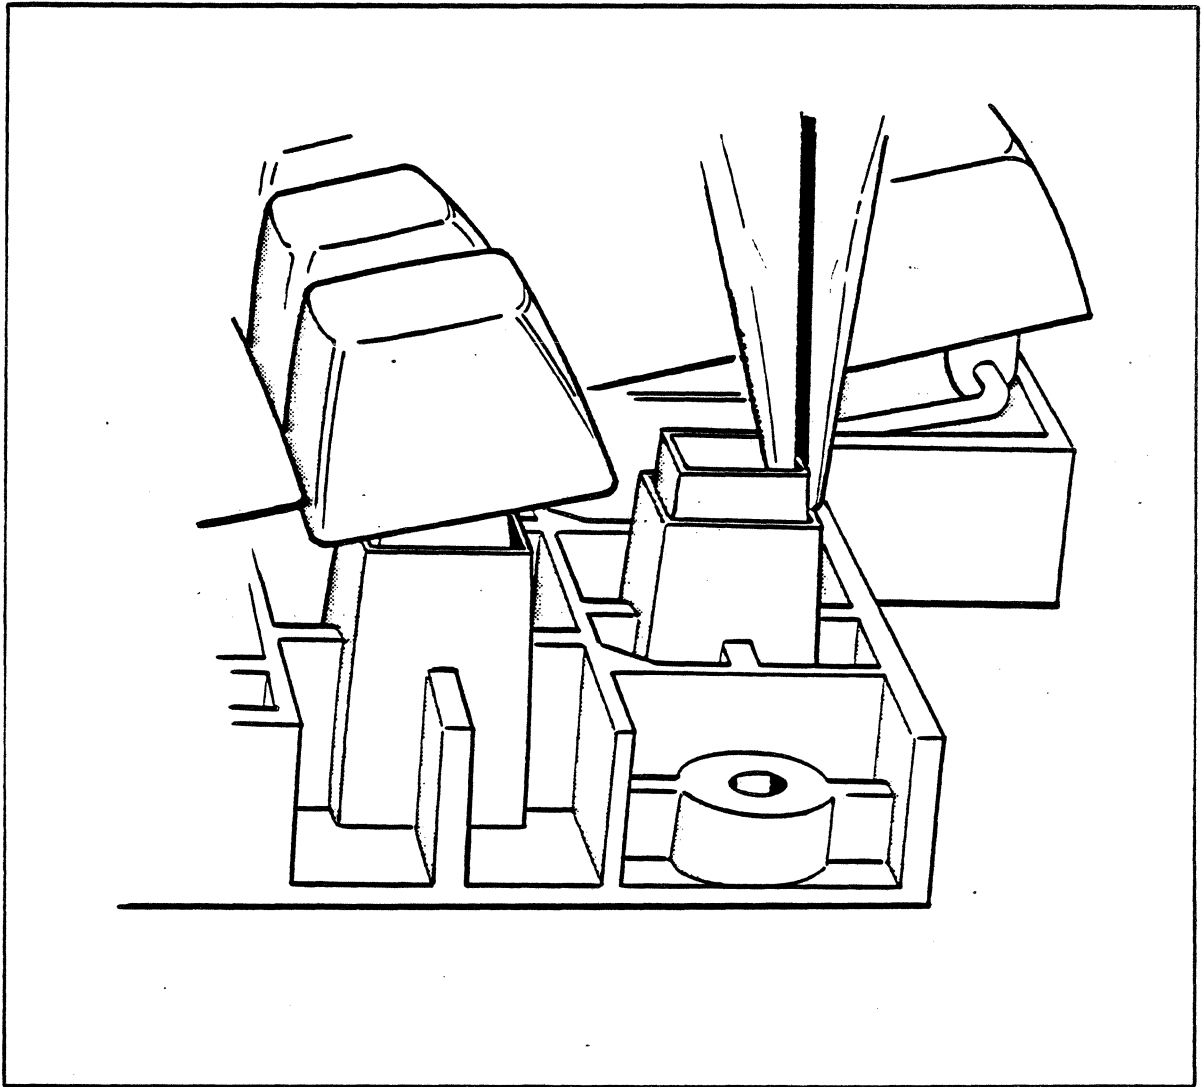

Figure 7-1. Removing the Plunger
5. With the pliers, firmly grasp the plunger in the corner (see Figure 7-1). Pull straight up firmly.